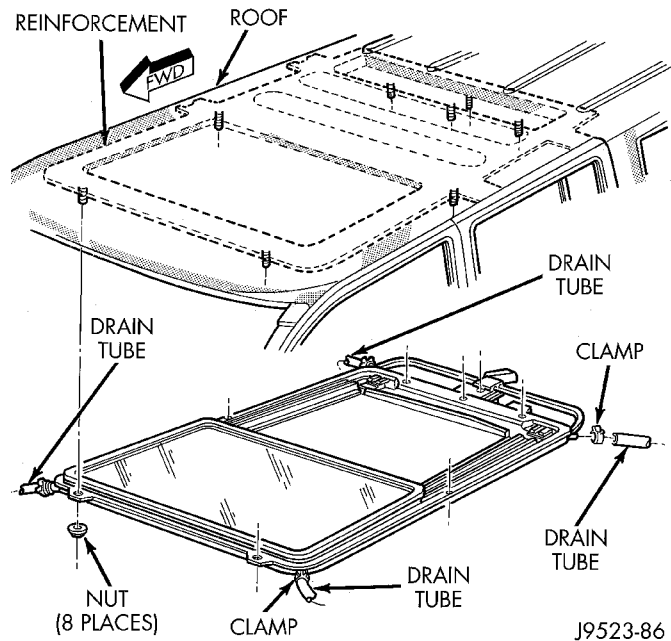

Fig. 6 Drain Tube
- (1) Remove the headliner to access clamps attaching drain tube to sunroof.
- (2) Disengage clamps attaching drain tube to sunroof (Fig. 6).
- (3) Tape the end of the old drain tube to the new drain tube. Ensure that the tape build up on the tube ends is not excessive.